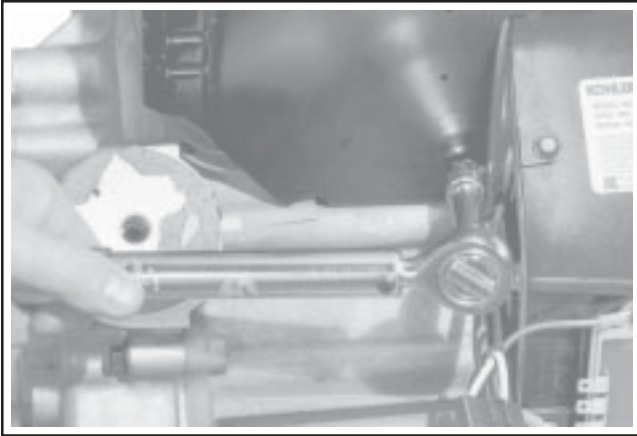
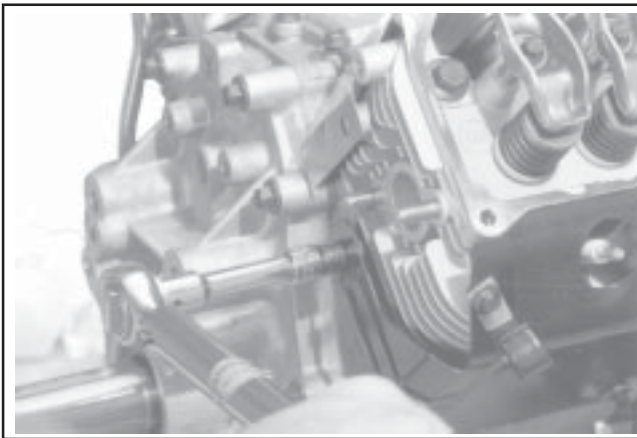

Figure 11-65. Tighten Short Screws to Torque Specified.
Figure 11-66. Tighten Baffle Mounting Screws.
5. Tighten all of the shrouding fasteners. Torque the blower housing screws to **6.2 N·m (55 in. lb.)** in a new hole, or to **4.0 N·m (35 in. lb.)** in a used hole. Torque the shorter M5 side baffle screws to **4.0 N·m (35 in. lb.)**. See Figure 11-65. Torque the upper M5 side baffle screws (into cylinder head) to **6.2 N·m (55 in. lb.)** in a new hole, or to **4.0 N·m (35 in. lb.)** in a used hole. Torque the two rear M6 baffle mounting screws to **10.7 N·m (95 in. lb.)** in a new hole, or to **7.3 N·m (65 in. lb.)** in a used hole. See Figure 11-66.